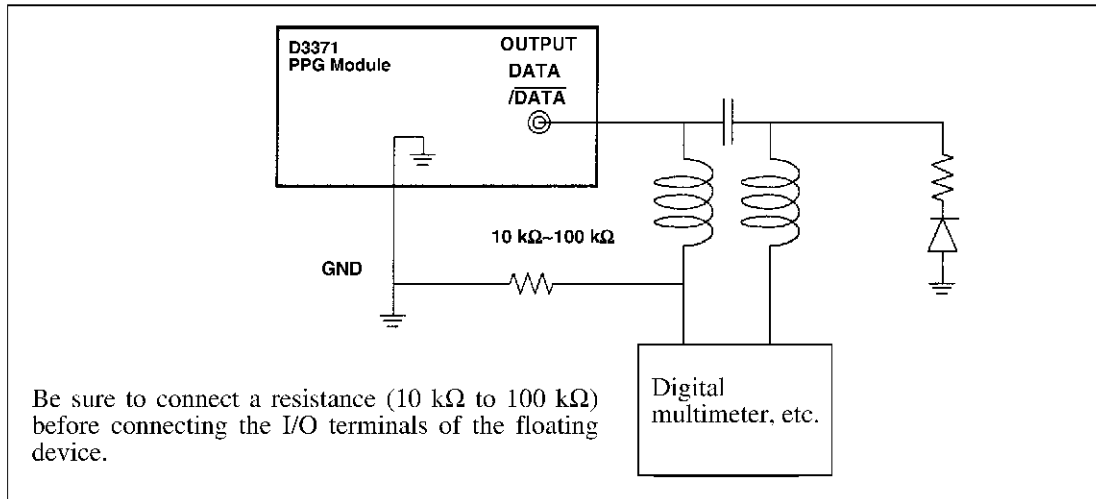

Figure 1-5 Grounding a Floating Instrument
- 6. Ground floating instruments such as digital multimeter through a resistance of 10 kΩ to 100 kΩ (see Figure 1-5).